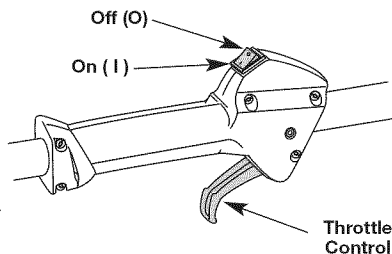

Fig. 7
NOTE: There is no need to turn the unit on. The On/Off Control is in the ON (I) position at all times (Fig. 7).
2. Press and hold the On/Off Control in the OFF (O) position until the engine comes to a complete stop (Fig. 7).
- NOTE:** There is no need to turn the unit on. The On/Off Control is in the ON (I) position at all times (Fig. 7).